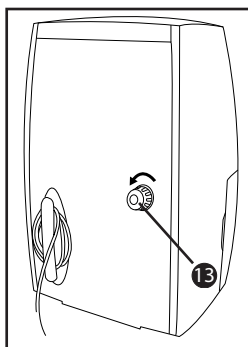

Fig. 2
- ◆ Unscrew the closure 13 on the rear of the appliance (see fig. 2).